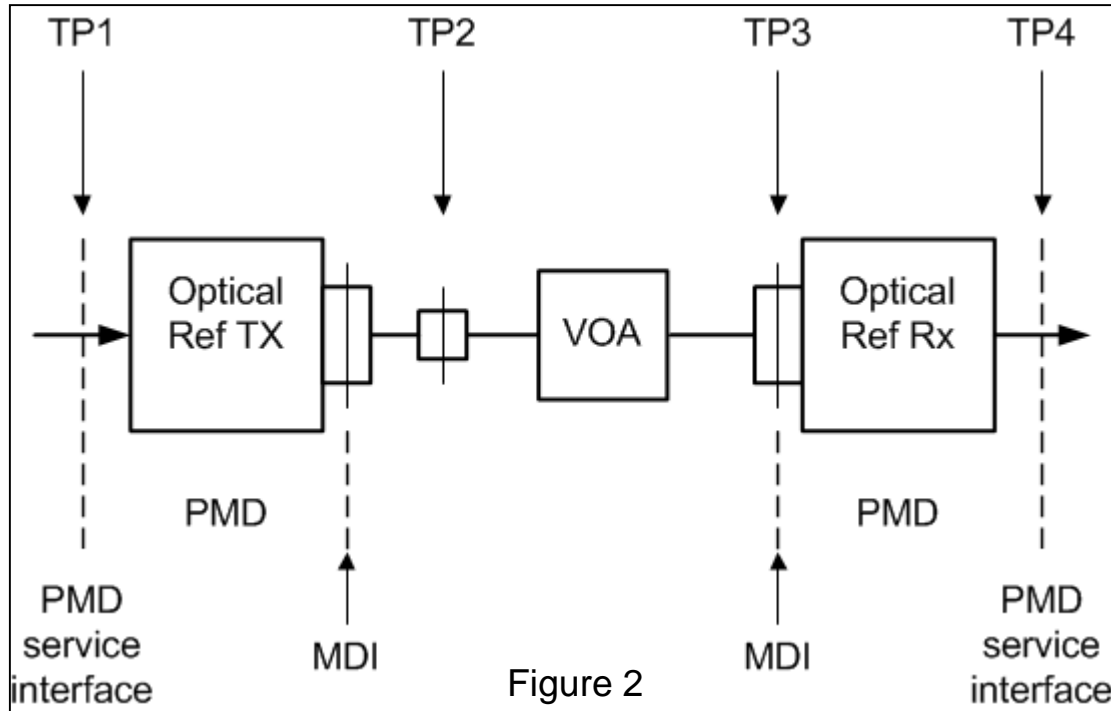

Figure 2
- 1) In setup of Figure 2, adjust VOA to yield TP4 TJ requirement. (Comment 103)
- Nomenclature: Terms TP1, TP2, TP3 and TP4 are used as defined in 802.3 clause 86 and shown in above Figure 1 and Figure 2.
- 1) Replace Ref Tx in Figure 2 with Worst Case Tx, worst case TP1 conditions and Worst Case Fiber as shown in Figure 3.
For the case where the ideal Tx in Figure 2, is used to calibrate the sensitivity of the combination of filter and Optical Ref Rx, i.e. a Ref Rx with a BW of 12.613 GHz instead of 19.336 GHz, a TDP penalty of 2.15 dB (all ISI) would be incurred.